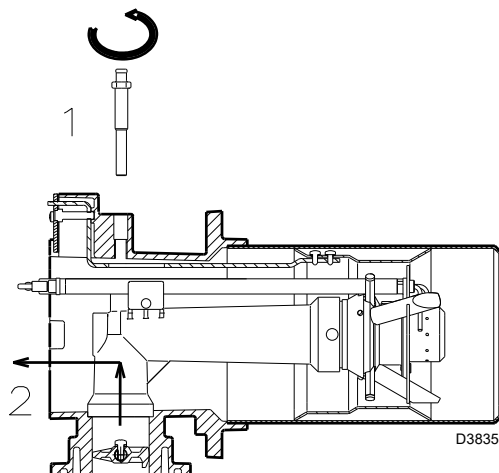

Fig. 12
In order to reach inside the combustion head (Fig. 12) proceed as follows:
- remove the screw 1)(Fig. 12)
- take out the inner part 2)(Fig. 12) of the head and then calibrate them.